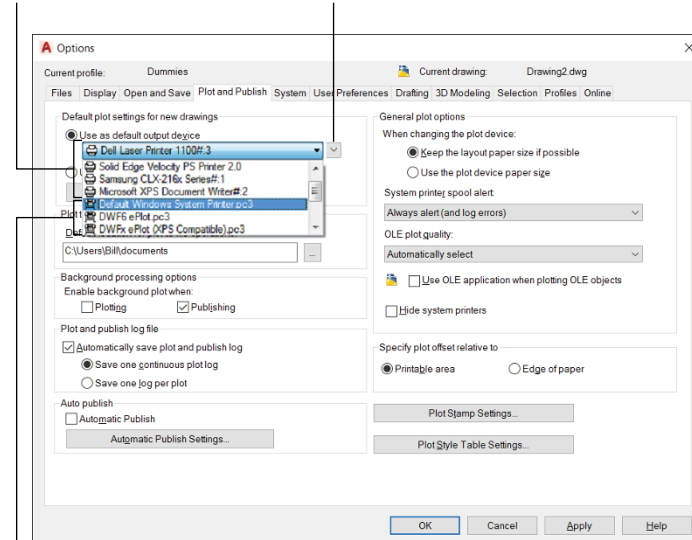

FIGURE 16-4:
- 3. Click the drop-down arrow to view the list just below the Use as Default Output Device option, as shown in Figure 16-4.**